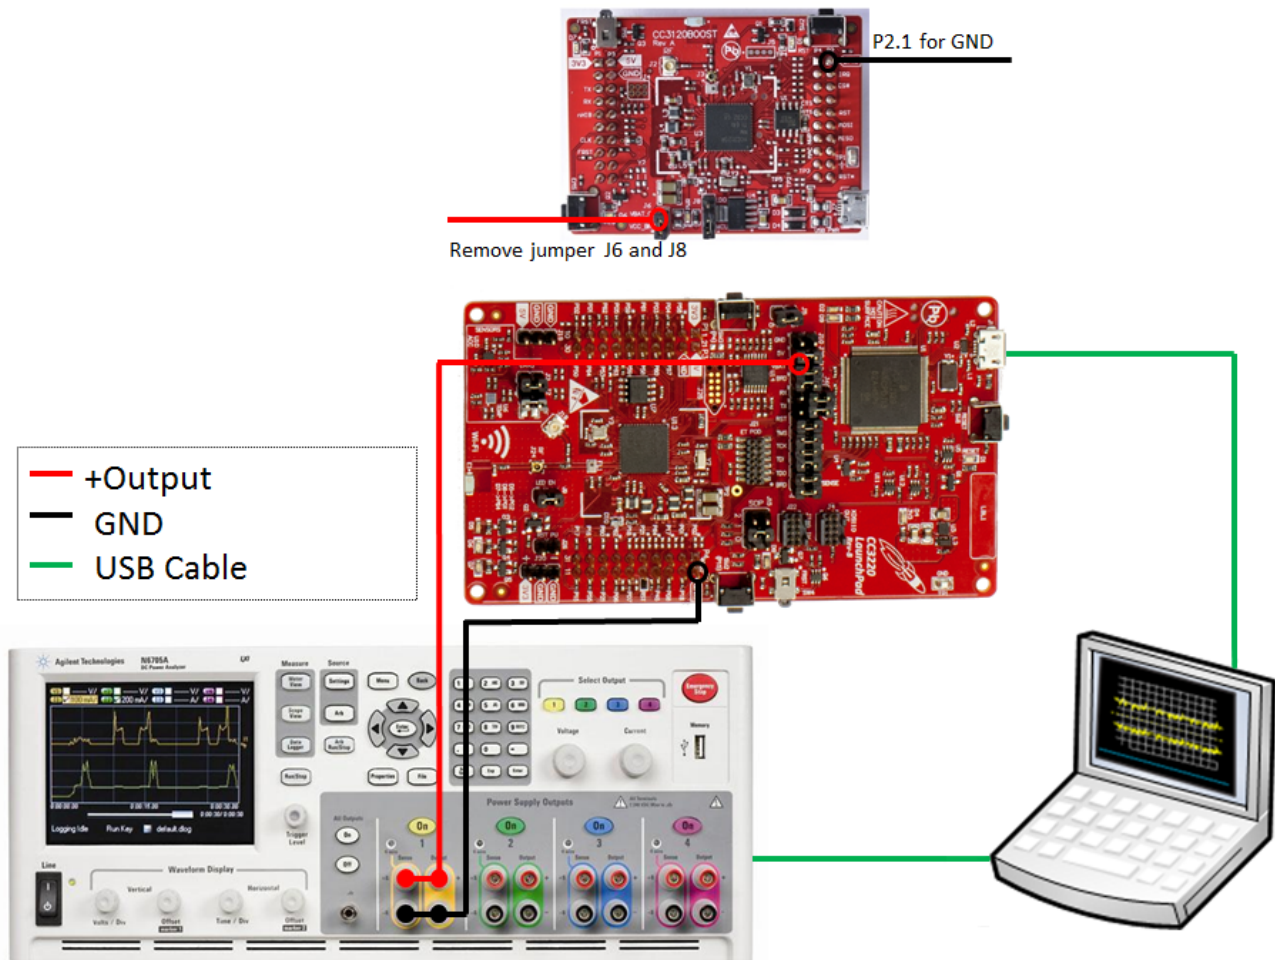

Figure 2-7. DC Power Analyzer Test Setup
3. Execute the code by powering on the device, and measure the current using the sourcing and measuring function of the DC Power Analyzer. For reference, Figure 2-7 shows the full overview.